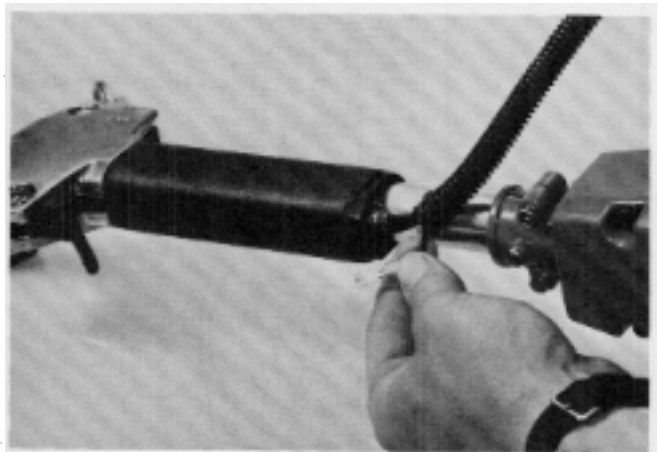

Figure 86
2. Pull the ignition switch wires from the rear of the throttle control grip. A needle nose plier may help. See Fig. 86.